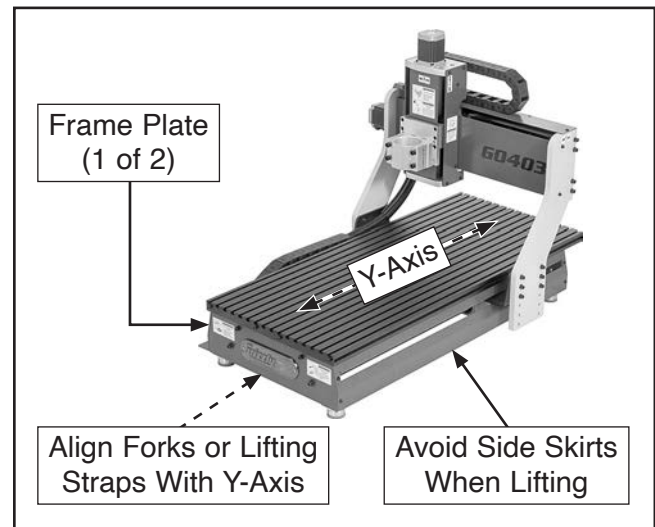

Figure 11. Location of lifting components.
5. Align forklift or lifting straps with machine Y-axis and position forks/straps under machine so they extend under front and rear frame plates (see **Figure 11**). Only lift machine enough to clear pallet, then move pallet out of the way.